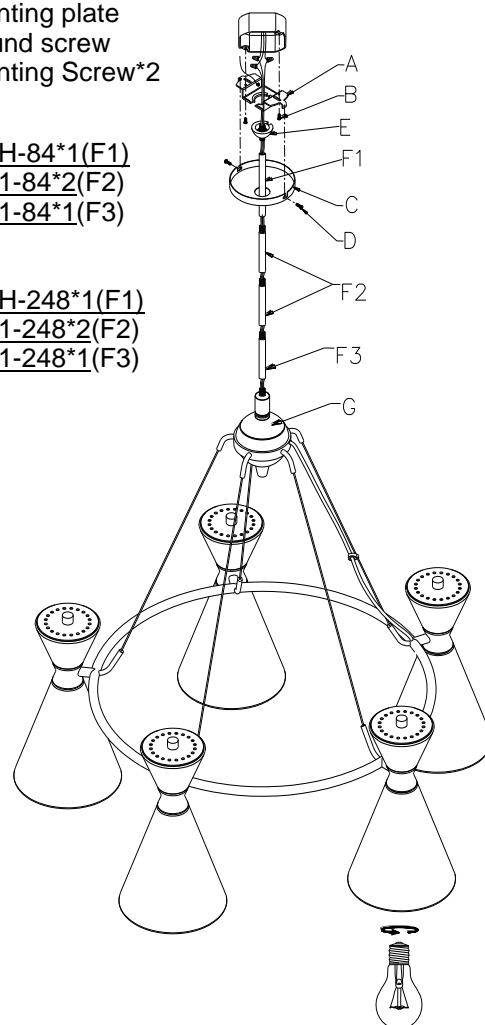

Fig. 3
CONNECTING THE WIRES (Fig. 3)
7. Connect the electrical wires as shown in figure 3, making sure that all wire connectors are secured. If your outlet has a ground wire (green or bare copper), connect it to the mounting plate (A) with the ground wire from hanger ball (E). Otherwise, connect the ground wire from the hanger ball (E) directly to the mounting plate (A) ground wire and secure with the wire connectors provided. After wires are connected, tuck them carefully into the ceiling junction box.